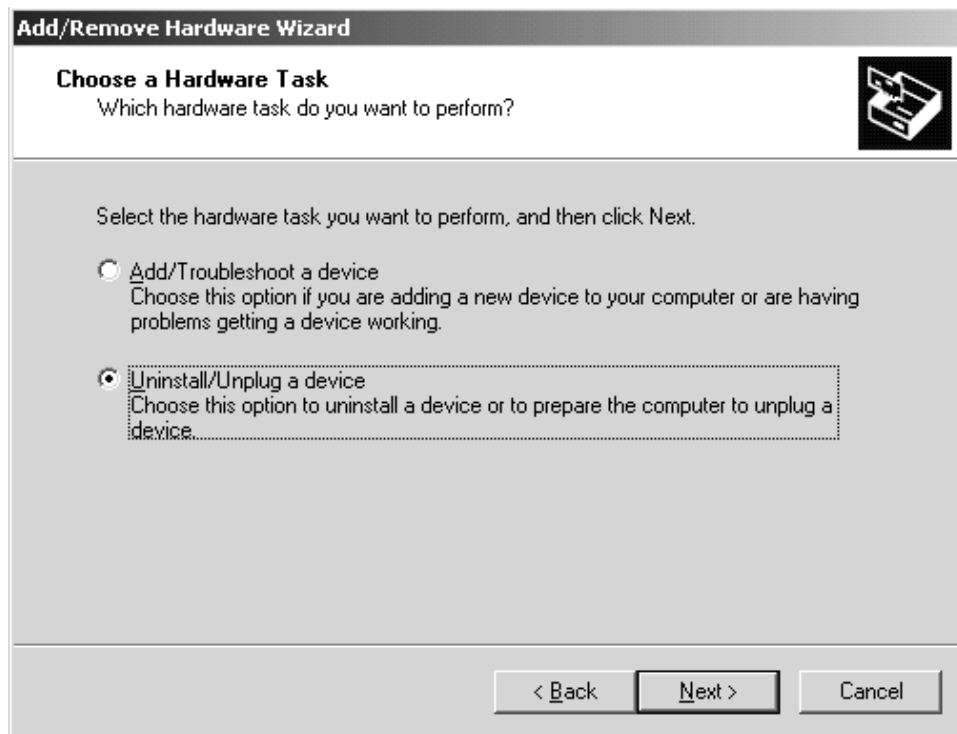

Figure 41. Control Panel Menu
3. An **Add/Remove Hardware Wizard** window opens. Select the **Uninstall/Unplug a device** option, then click **Next >**. See Figure 41.